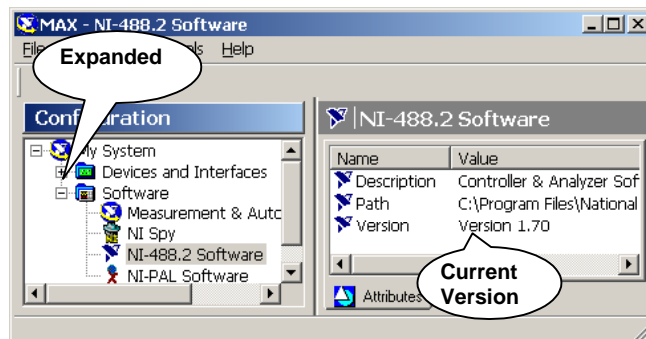

Figure 3. Software list (left) and software information (right), with callouts to expanded software list and version
- d. In the left or **Configuration** panel of the dialog, expand the **Software** group by clicking on the plus (+) sign next to it. As shown in Figure 3, a list of names will appear, including **NI-488.2 Software**.
- e. To locate the driver version, select **NI-488.2 Software**. When you do this, the display in the right panel will change to show information about the selected software, including the version number, as shown in Figure 3.